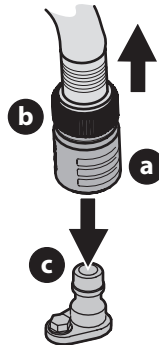

Figure 29
3. Pull back the lock collar (a) of the nozzle adapter (b) and push the nozzle adapter onto the deck wash nozzle (c). Release the lock collar to lock the nozzle adapter on the deck wash nozzle (Figure 29).